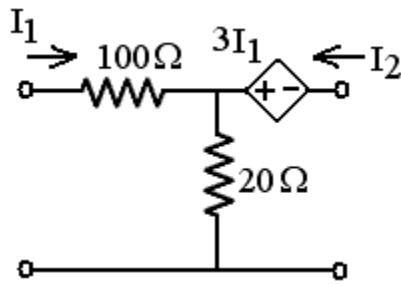

Fig.3
2. Find the Transmission parameters and Z – Parameters for the two – port network shown in Fig.3.